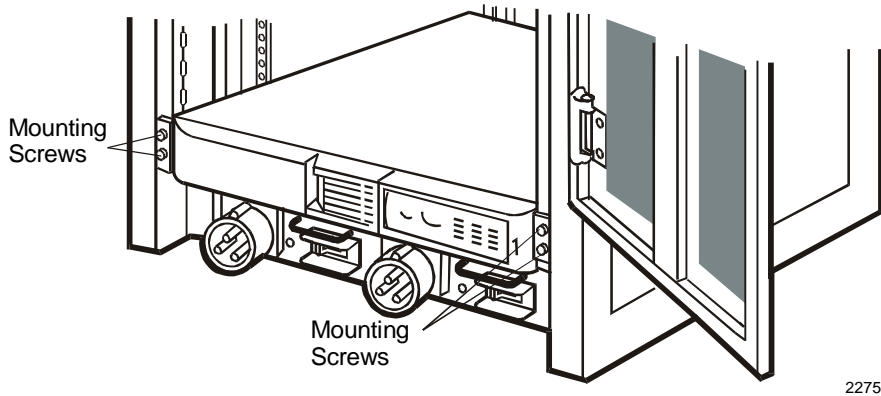

Figure 8. CRU Screwed into the Rack
5. Rest the CRU on the support angles above the power distribution units, and slide the unit back and into place. See Figure 8.